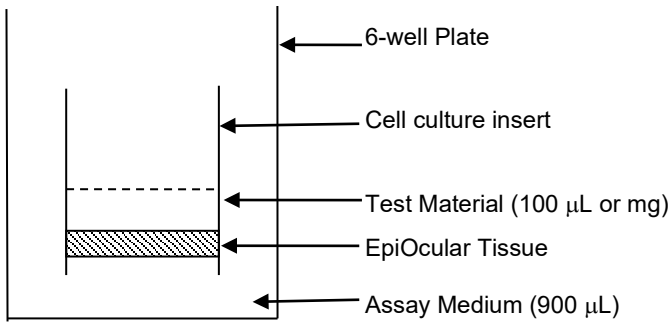

Figure 1: Dosing Configuration (37° C, 95% rH, 5% CO₂)
d) **Apply dose:** Pipet 100 µL of test material into the cell culture insert atop the EpiOcular tissue. Viscous materials should be pipetted with a positive displacement pipette. Do not add the test material to the assay medium in the well. Negative controls should be treated in an identical manner to the dosed inserts. See Figure 1. Return the 6-well plates containing the dosed EpiOcular tissues to the incubator for the desired time period.
g) **Reduction of MTT by Test Article:** To ensure that the MTT reaction is accurately measuring the tissue viability, it is necessary to determine whether the test article (TA) can directly reduce MTT. A 1.0 mg/mL MTT solution is prepared as above and 100 µL or 100 mg of the neat TA is added to 1 mL of the MTT solution. This mixture is incubated in the dark at room temperature for 60 minutes. A negative control, 100 µL of ultrapure water, is tested concurrently. If the MTT solution color turns blue/purple, the TA has reduced the MTT; the absence of darkening indicates that the TA does not directly reduce MTT.